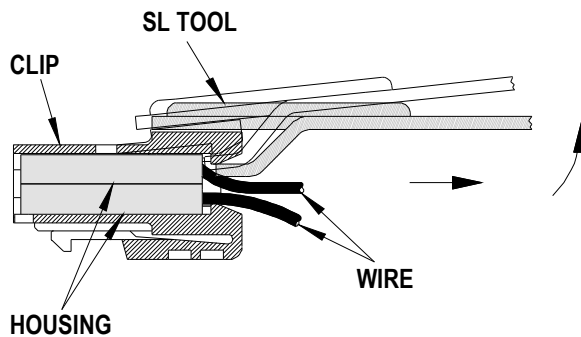

Figure 5
2. Pull the housing out in the direction of the arrow. See Figure 5 and 6.